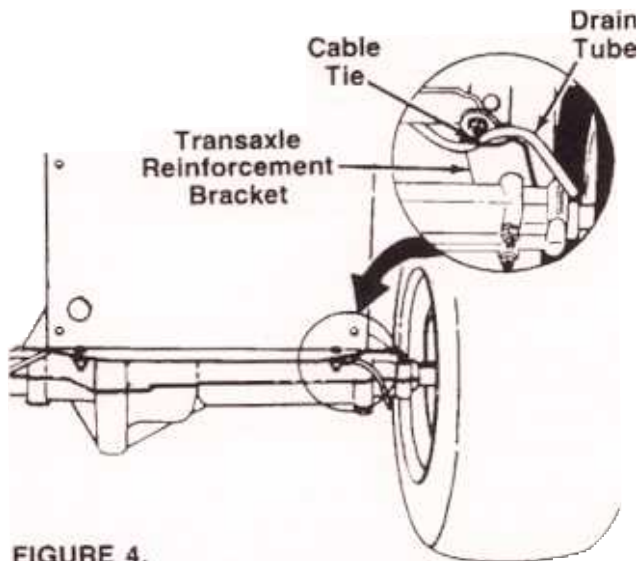

FIGURE 4.
6. Secure the drain tube to the transaxle reinforcement bracket on the **right** side of the unit, using the cable tie as shown in figure 4. Be certain drain tube is routed away from the wheel rim. Trim excess end of cable tie.